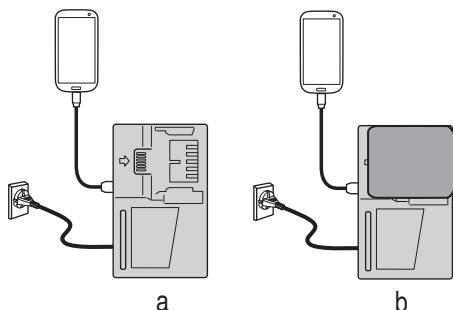

Fig. 36
- Charging a USB device from a electrical outlet (Fig. 36-a).
- Charging a USB device and battery from a electrical outlet.(Fig. 36-b)